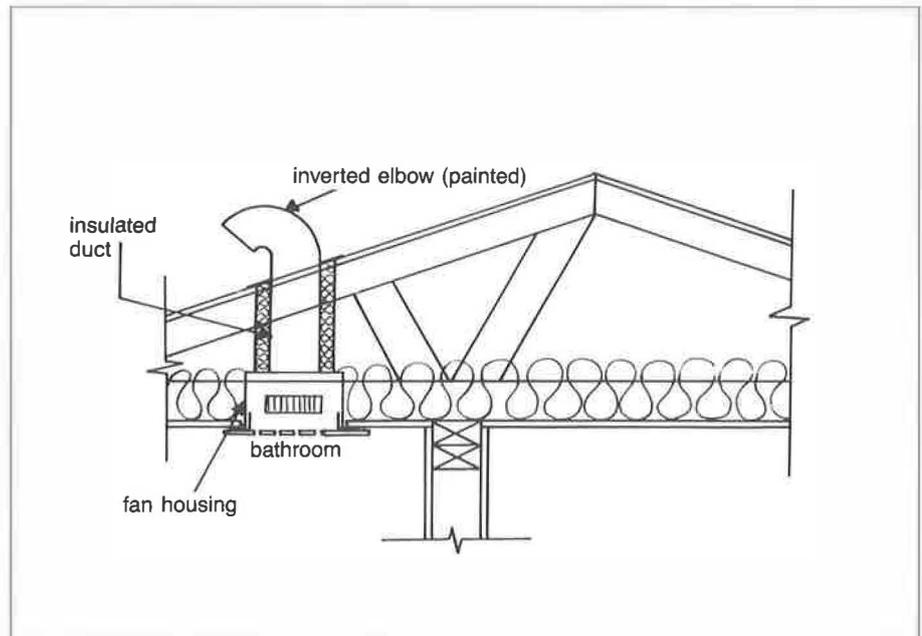

Fig. 19. Bathroom fan / duct installation detail
- Insulate the exhaust duct to the under side of the sheathing. The exhaust should be an inverted elbow so that condensation at the mouth area does not drain back into the fan housing (*fig. 19*).